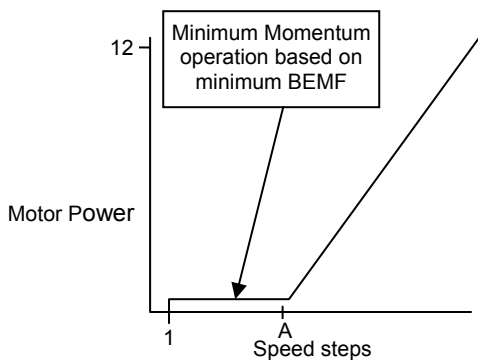

Figure 1
**Example 7:** RTC has a minimum Back EMF value that will maintain minimum momentum. Minimum Back EMF is specified in CV 56.5. Figure 1 shows a linear speed curve of motor power versus speed steps.